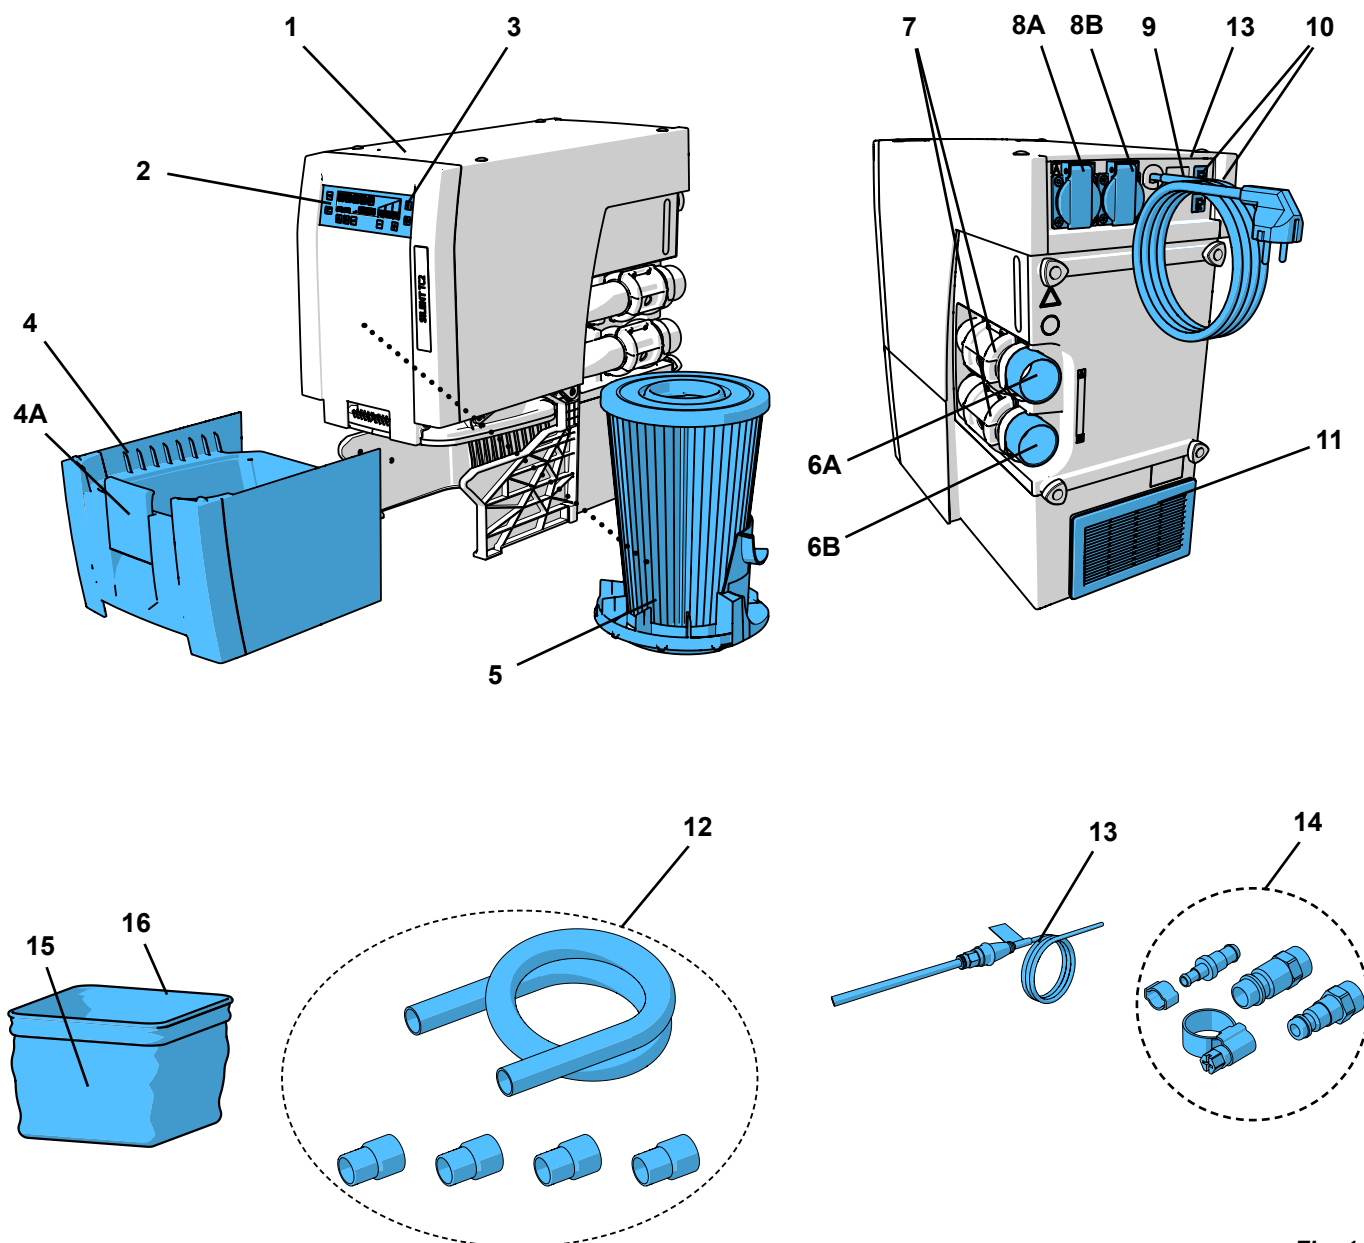

Fig. 1
- the exhaust air outlet (11, Fig. 1) is not blocked.
- External exhaust air duct (A) (see chapter 4.7).
- Opening in the cabinet wall (B), min. 250 x 120 mm, directly opposite the exhaust air outlet (11, Fig.1).
- Remove the back side of the cabinet (C), distance from the back of the cabinet to the wall min. 50 mm.
⇒ Unroll the mains cable (9, Fig.1) and insert the plug into the building's electrical socket.
⇒ Select the appropriate tube coupling from the supplied connection set (14, Fig. 1) and attach it to the end of the tube.